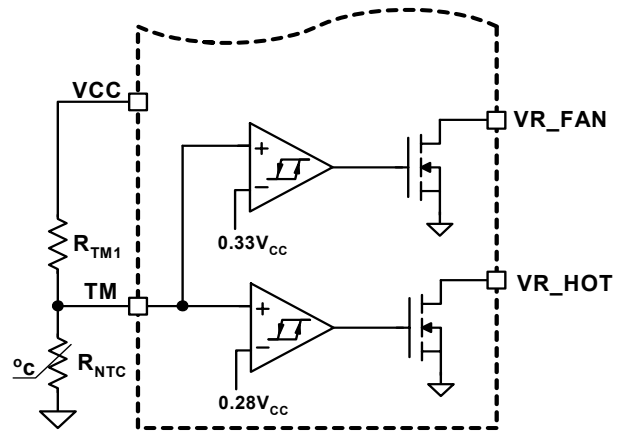
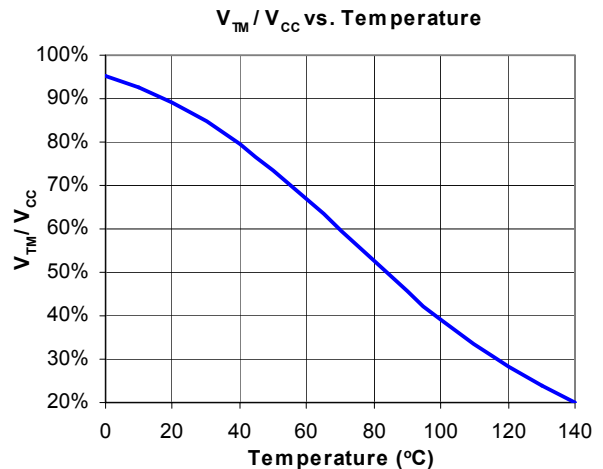

FIGURE 18. BLOCK DIAGRAM OF THERMAL MONITORING FUNCTION
FIGURE 19. THE RATIO OF TM VOLTAGE TO NTC TEMPERATURE WITH RECOMMENDED PARTS
The diagram of thermal monitoring function block is shown in Figure 18. One NTC resistor should be placed close to the power stage of the voltage regulator to sense the operational temperature, and one pull-up resistor is needed to form the voltage divider for the TM pin. As the temperature of the power stage increases, the resistance of the NTC will reduce, resulting in the reduced voltage at the TM pin. Figure 19 shows the TM voltage over temperature for a typical design with a recommended 6.8kΩ NTC (P/N: NTHS0805N02N6801 from Vishay) and 1kΩ resistor RTM1.
ISL6307A converts the TM pin voltage to a 6-bit TM digital signal for temperature compensation. With the non-linear A/D converter of ISL6307A, TM digital signal is linearly proportional to the NTC temperature. For accurate temperature compensation, the ratio of the TM voltage to the NTC temperature of the practical design should be similar to that in Figure 19.
1. Properly choose the voltage divider for TM to match the TM voltage vs. temperature curve with the recommended curve in Figure 19.